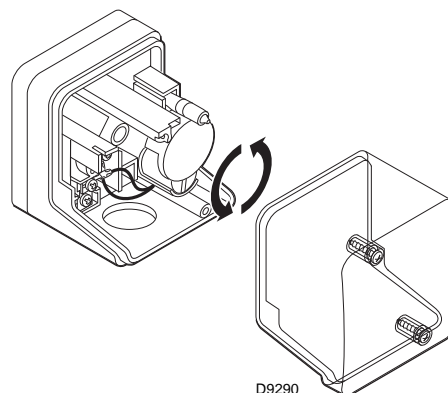

Fig. 35
- Adjust the minimum gas pressure (Fig. 35) switch to the start of the scale.
Adjust the minimum gas pressure switch (Fig. 35) after having performed all the other burner adjustments with the pressure switch set at the start of the scale.